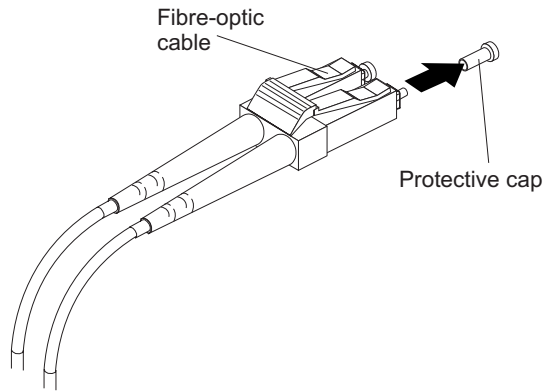

Figure 31. Removing fiber-optic cable protective caps
3. Remove the two protective caps from one end of the LC-LC cable, as shown in Figure 31 on page 55. Save the protective caps for future use.